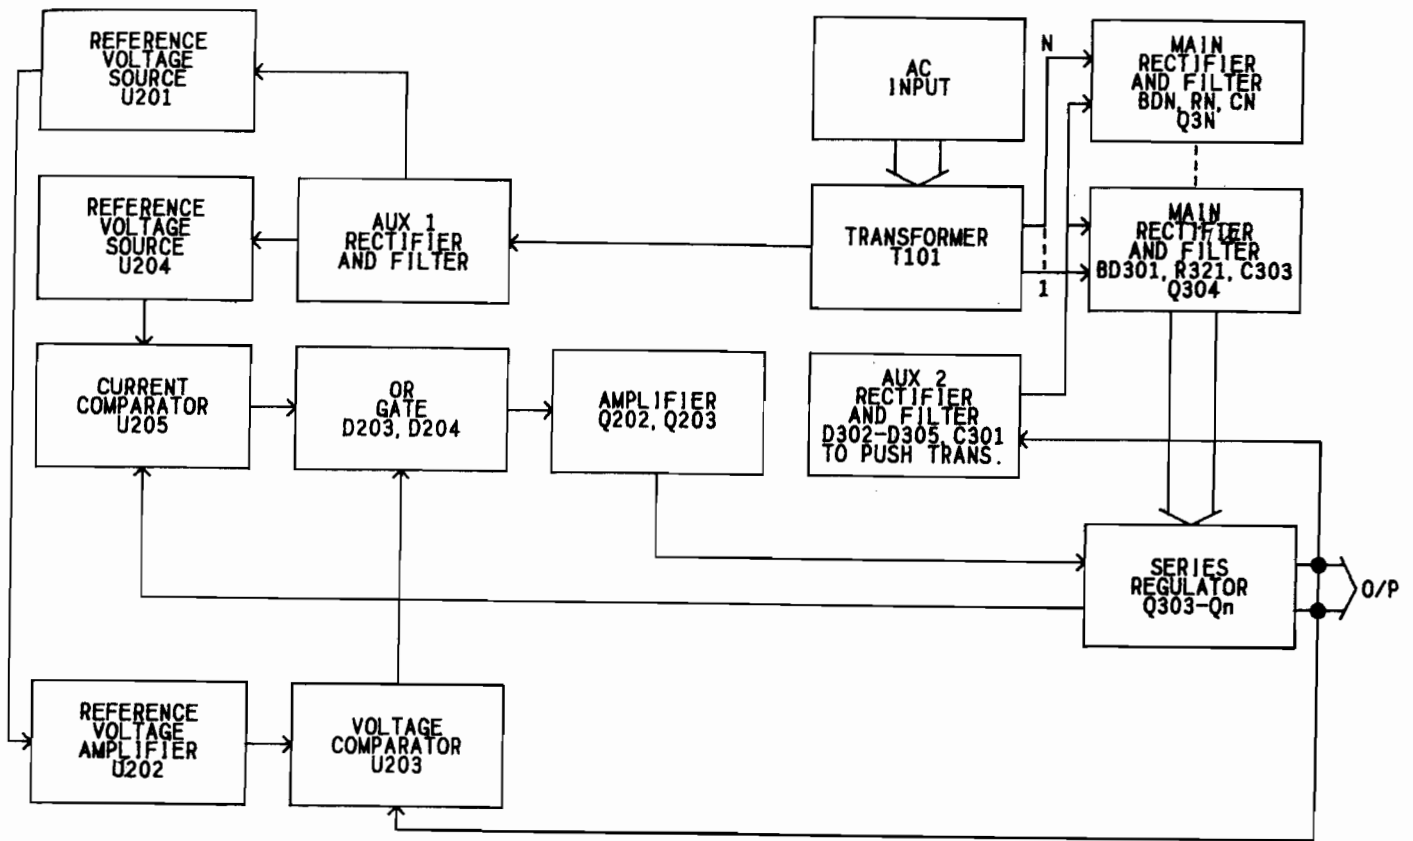

Fig. 2 Block Diagram (More than 100V)
**3-2 High Voltage Circuit (FIG. 2)**